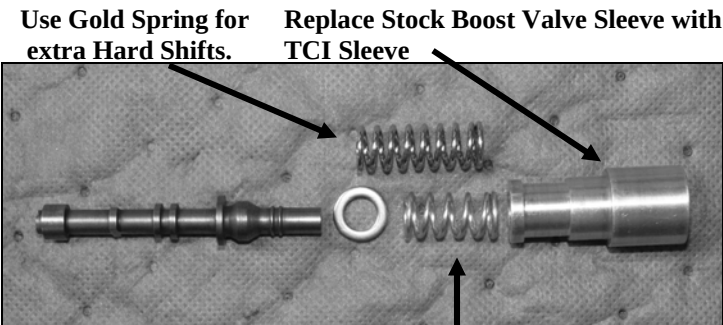

Figure 5
Step 8 Pressure Regulator Modifications (**See Figure 4**). Remove the pressure regulator assembly from the transmission pump. Push down on the TV boost valve sleeve while removing the retaining ring. Be careful as there is heavy spring tension behind it. Slowly lower the sleeve to relieve spring tension. Remove the TV boost valve sleeve and valve, the reverse boost sleeve and valve, and the pressure regulator spring. The pressure regulator may also drop out during disassembly. If so, coat with transmission gel or petroleum jelly and put back up inside pump GENTLY. DO NOT FORCE. Reinstall the pressure regulator assembly with the new spring and TV boost valve (**See Figure 5**). **NOTE:** Incorrect assembly will cause the transmission to function improperly.